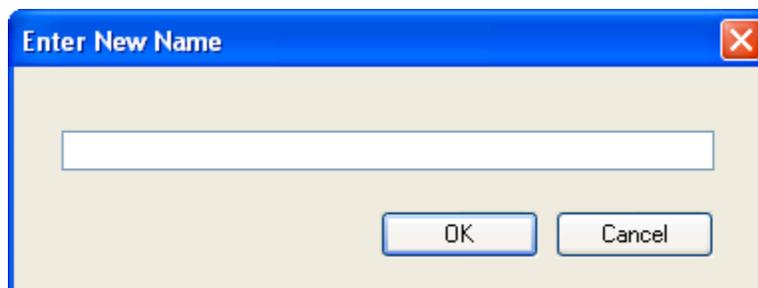

Figure 50 - Enter New Name Window
3. The **Enter New Name** window (Figure 50) appears.